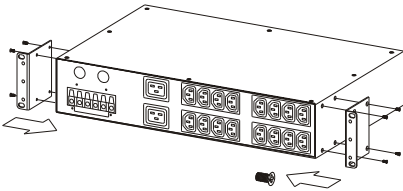
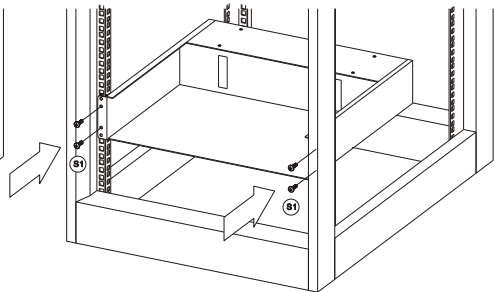

Figure 1 & 2
Figure 2
4. Affix the backplate (Figure 1) onto the ATS (Figure 2). Affix the ATS onto the frame of the chassis (Figure 3).
4. Affix the backplate (Figure 1) Affix the ATS onto the frame of the Maintenance Box (Figure 2) .